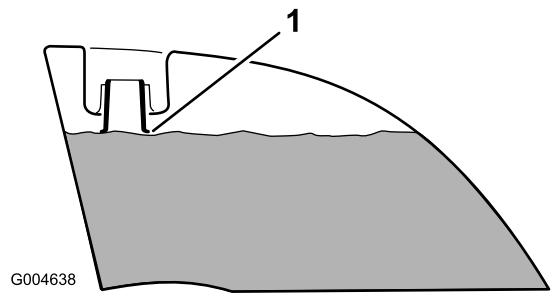

Figure 12
4. Add fuel to both fuel tanks, until the level is even with the bottom of the filler neck (Figure 12). Do not over fill the fuel tanks.